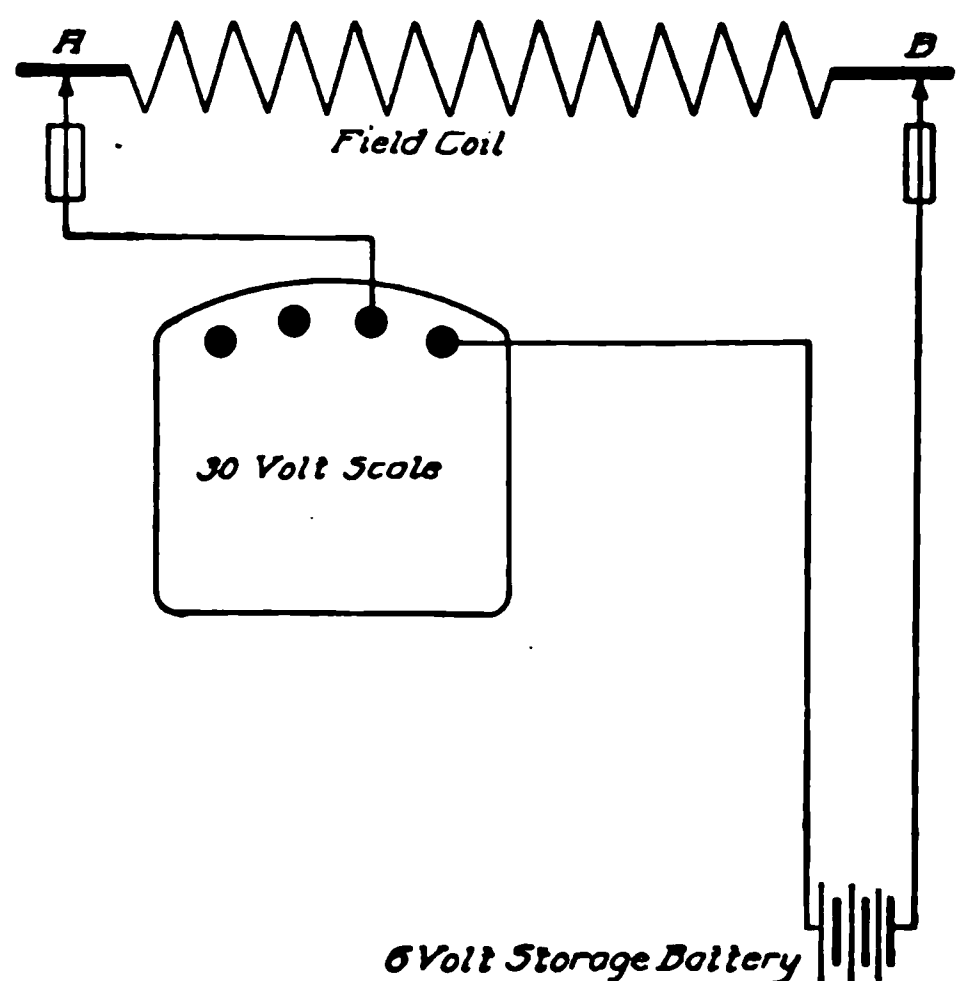

Fig. 272. Voltmeter Test Diagram for Open-Circuited Field
naturally be much less. In other words, the value of the voltmeter reading will always depend upon the amount of resistance offered by the coil or other circuit that is being tested. When there is no circuit, as with the free ends held apart in the hands, there will be no indication on the voltmeter scale. An open-circuited coil will accordingly be indicated by a zero reading of the voltmeter when the two free ends, or points, are placed upon the terminals of the coil, Fig. 272. If, on the other hand, the voltmeter reading is nearly half of that of the battery voltage, the coil is in good condition. This test corresponds to that with the lamp-testing set using the 110-volt
The method of employing the voltmeter for making field tests, shown in Figs. 272 and 273, is as follows:
*To test for an open-circuited field,* connect up as shown in Fig. 272. The positive terminal of the voltmeter is connected to the positive terminal of the battery. An insulated copper wire of convenient length, with the insulation stripped off for about one inch at each end, is then attached to the